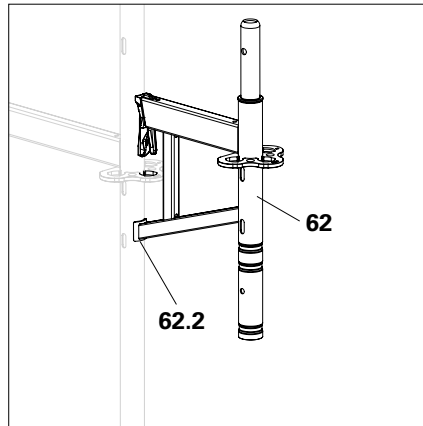

Fig. A6.03
1. Attach Console Bracket ECM 33 (**62**) to $\frac{3}{4}$ rosette. The formwork half (**62.2**) must rest against the vertical tube. (Fig. A6.03)